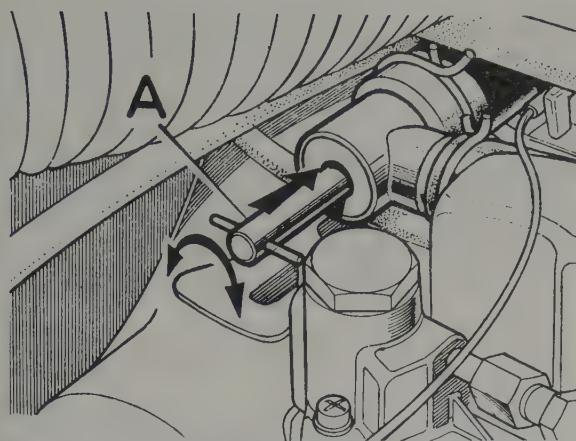

Fig. 3.17. Cut-off valve for automatic enrichment device
- 8 On early models fitted with automatic choke or enrichment device, it should be noted that the device should be rendered inoperative before carrying out idle adjustments. This is achieved by means of the cut-off valve provided. To operate this valve, turn the tap clockwise to release it from its retaining thread, then push it inwards (Fig. 3.17).